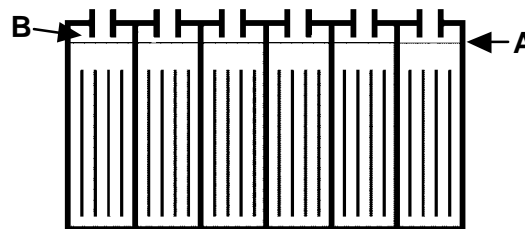

FIG. 31
9. After charging, recheck the battery electrolyte level (A) in each battery cell. The level should be 1 cm (3/8 in.) from the bottom of sight tubes (B) (Figure 31). Add distilled water if needed. DO NOT OVERFILL.